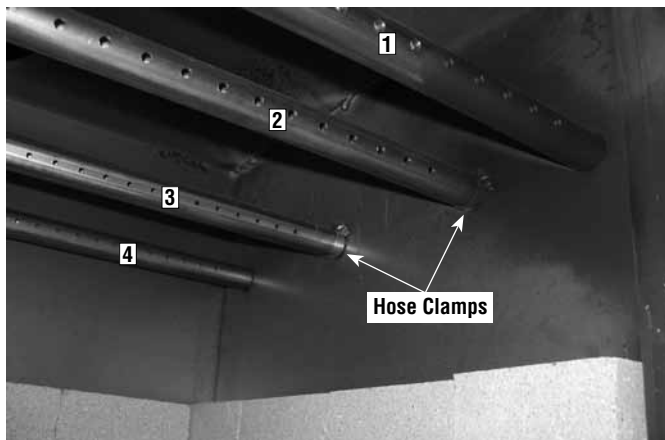

Figure 3
- Step 2.** Using a small flat blade screwdriver, loosen the (4) four hose clamps located on the right side of the firebox. Once hose clamps are loose they can be moved on the secondary tubes approximately 1-1/2" to the left. See **Figures 3 and 4.**